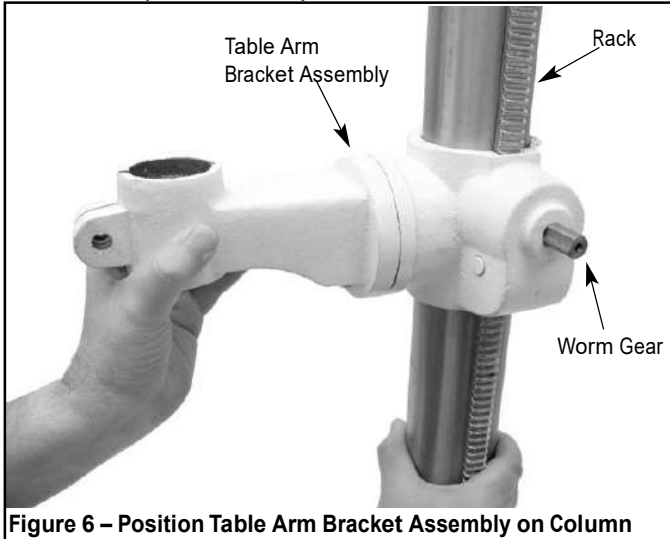

Figure 6 – Position Table Arm Bracket Assembly on Column
- Slide table bracket assembly with rack over column. Place bottom end of rack inside beveled edge of column flange. See Figure 6, page 5.